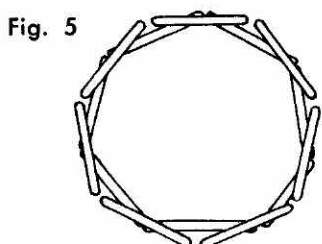

Fig. 5
5. SHADE – Place and glue 14 CRAFT STICKS (7 in each layer) as shown in Fig. 5. The center area should measure 8 3/4". Bear in mind that you will be building from the top to the bottom.